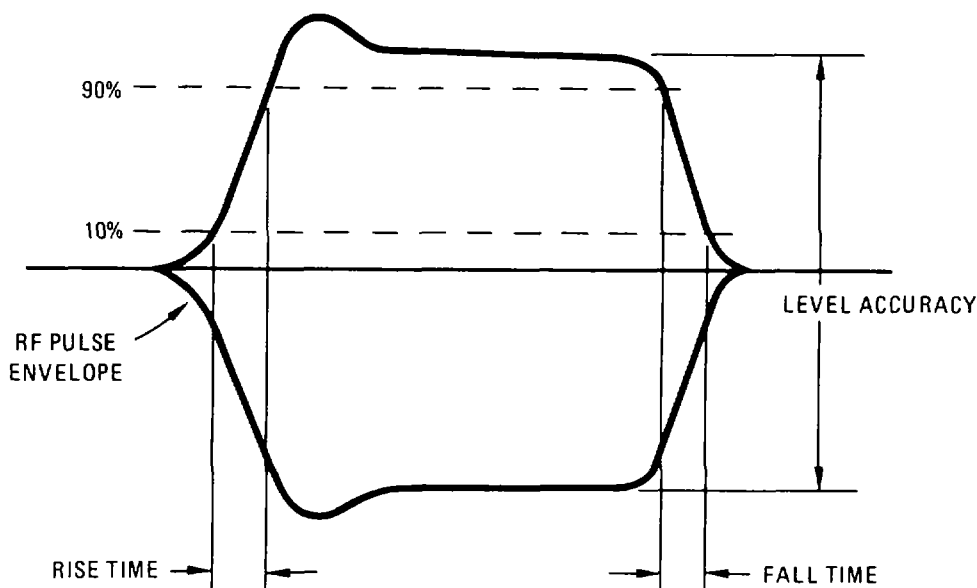

Figure 4-23. Pulse Measurements
3. Adjust oscilloscope to display the RF pulse envelope. Readjust the pulse width for 10 μ s (measured at 50% amplitude points) and measure the rise and fall times (see Figure 4-23). Both should be less than 9 Ps (measured between 10% and 90% of the full pulse amplitude).